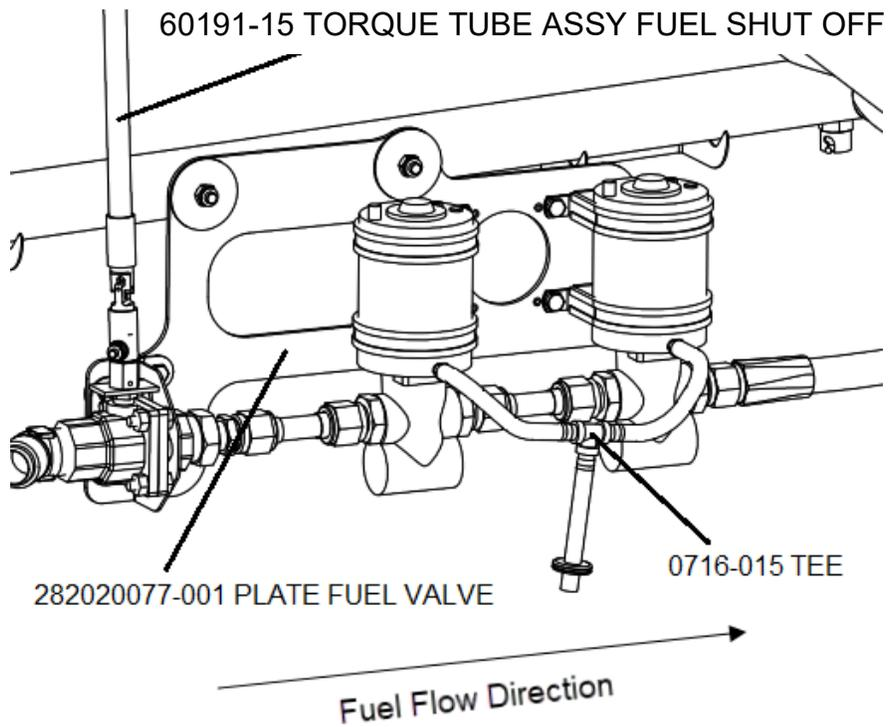

Figure 72-11
- g) Install new torque tube 60191-15 for fuel shutoff valve using hardware shown in Figure 72-11.
- h) Install drain lines connected by 0716-015 Tee through the existing Grommet on the bottom skin from fuel pumps. See Figure 72-11.